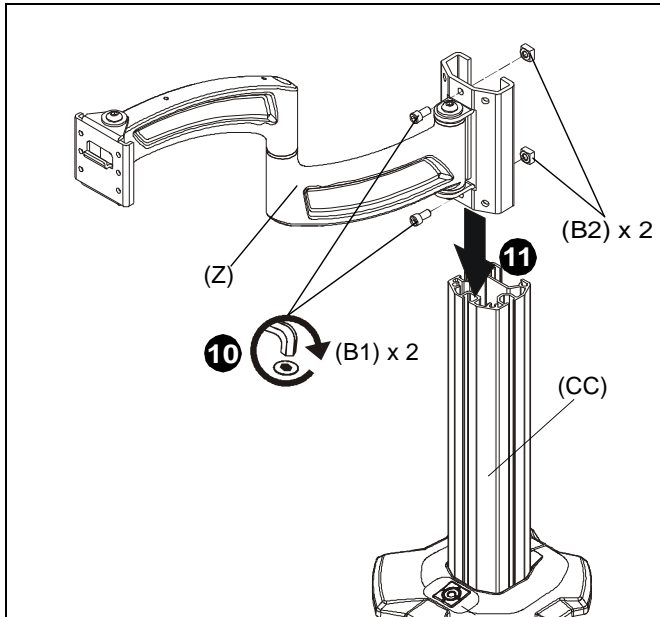

Figure 5
10. Loosely install two 1/4-20 x 1/2" socket head carriage screws (B1) through mounting holes on column arm (Z) bracket and into 1/4" square nuts (B2). (See Figure 5)
11. Slide column arm (Z) bracket into column (CC) until desired mounting height is reached. (See Figure 5)